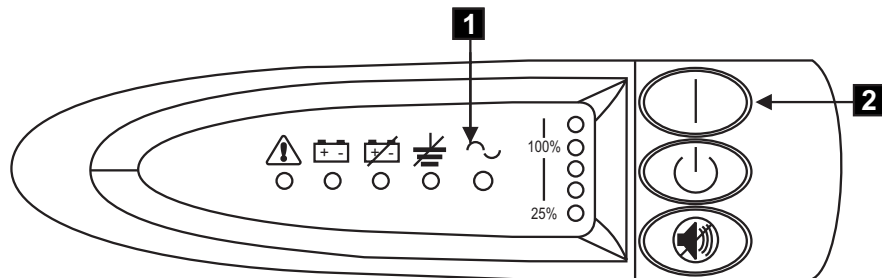

Figure 149. Power switch and indicators of the 2145 UPS
10. All the front panel indicators (see Figure 149) flash for a short time while the 2145 UPS runs a self test. When the test is complete, the mode indicator flashes to show that the 2145 UPS is in standby mode.